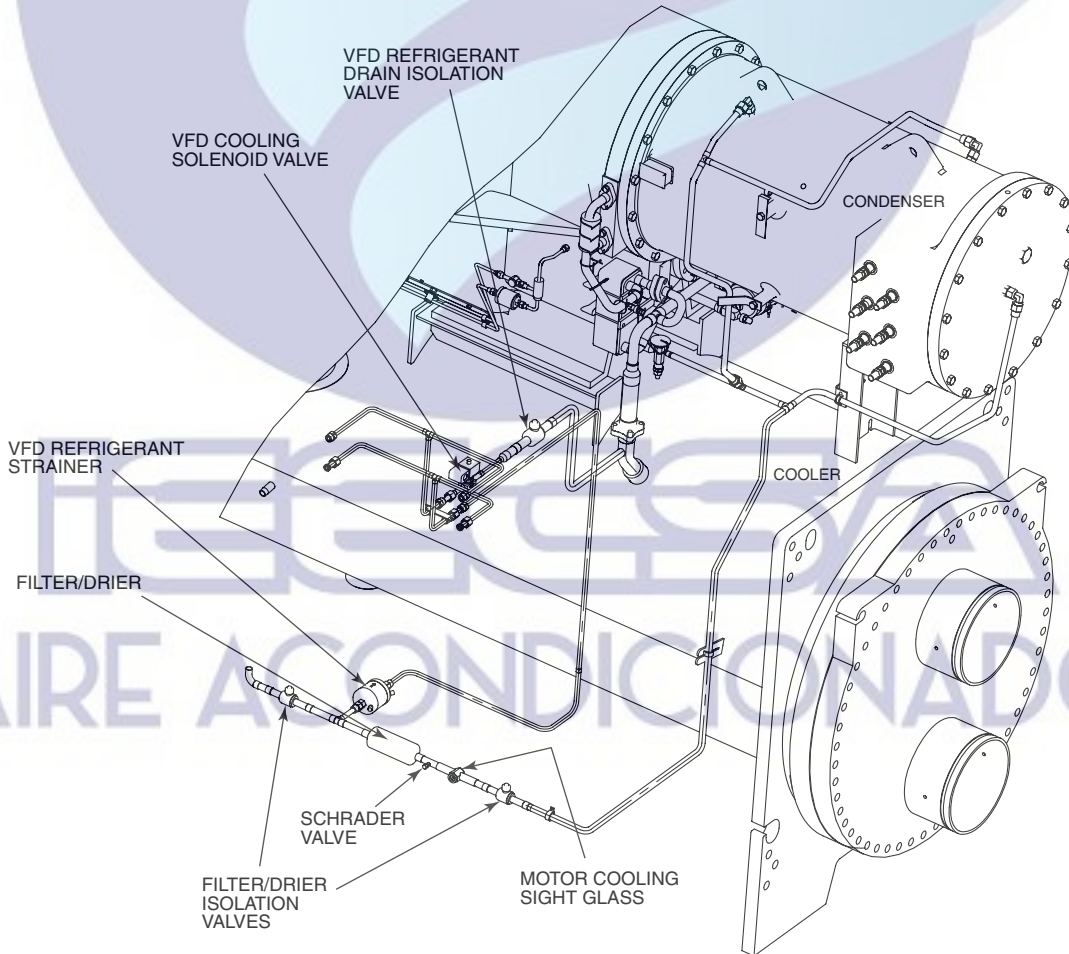

Fig. 21 — 900A or 1200A LF2 VFD or Standard Tier VFD (765, 855, 960, 1070, 1275, 1530A) Isolation Valves — Typical
1. Close the 2 filter drier isolation valves (Fig. 21) and the VFD refrigerant drain isolation valve. Evacuate the VFD coldplate through the Schrader valve (Fig. 21) next to the filter/drier.
9. Evacuate all piping between the VFD and the VFD isolation valves after assembly and tightening of VFD fittings. When dehydration/evacuation is complete, equalize VFD piping pressure with machine pressure if machine is charged with refrigerant. See Fig. 21.